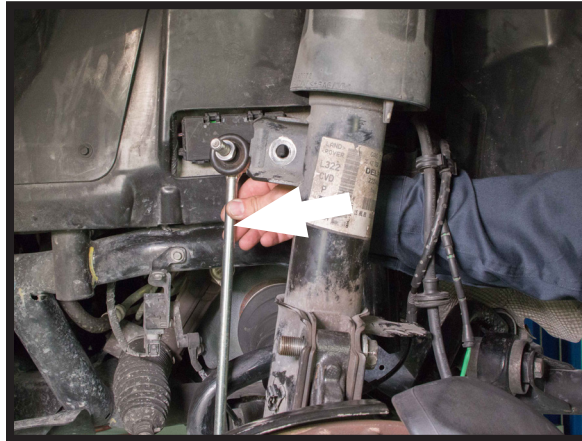

FIGURE 5
8. DISCONNECT THE SWAY BAR END LINK BY REMOVING THE NUT HOLDING THE BALL JOINT TO THE STRUT. YOU MAY NEED TO HOLD THE BALL JOINT FROM SPINNING BY PLACING A WRENCH ON THE TWO (2) FLATS OF THE BALL JOINT. (FIGURE 5)